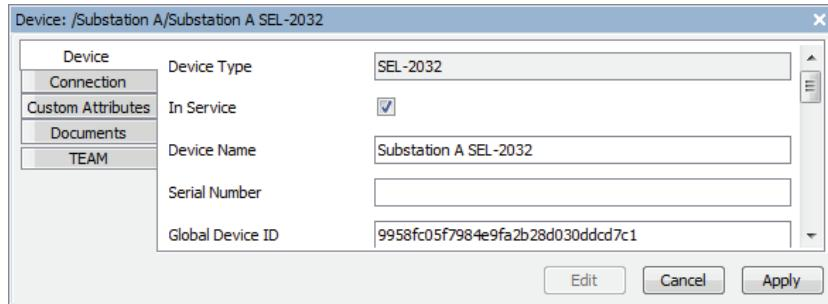

Figure 50 Communications Processor Device Tab
Step 2. Select the **Edit** button to modify device parameters. Select the **In Service** check box displayed in *Figure 50*.